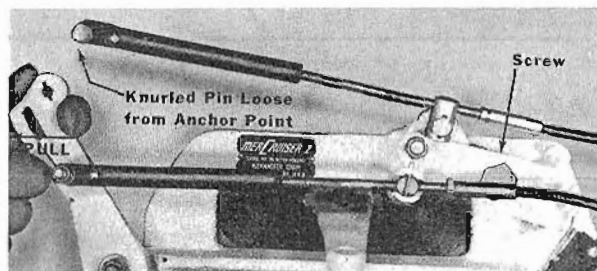

Figure 8. Shifting into Reverse Gear
*NOTE: To avoid pre-loading shift cable when making cable adjustments, it will be necessary to lock "out" shift cutout switch lever for correct attachment of shift cable. Place plain washer (C-12-22753) between shift cutout switch lever & inner transom plate. Place screw (C-10-25299) (5/16-18x1/4") & lock-washer (C-13-26993) thru hole in shift cutout switch lever (Figure 8) & tighten into inner transom plate.*
- g. Manually move shift lever to left (when viewing lever from inside boat) as far as it will go. (Figure 8) This shifts stern drive unit into reverse. While shifting, rotate propeller shaft clockwise until shaft stops (to insure full clutch engagement).